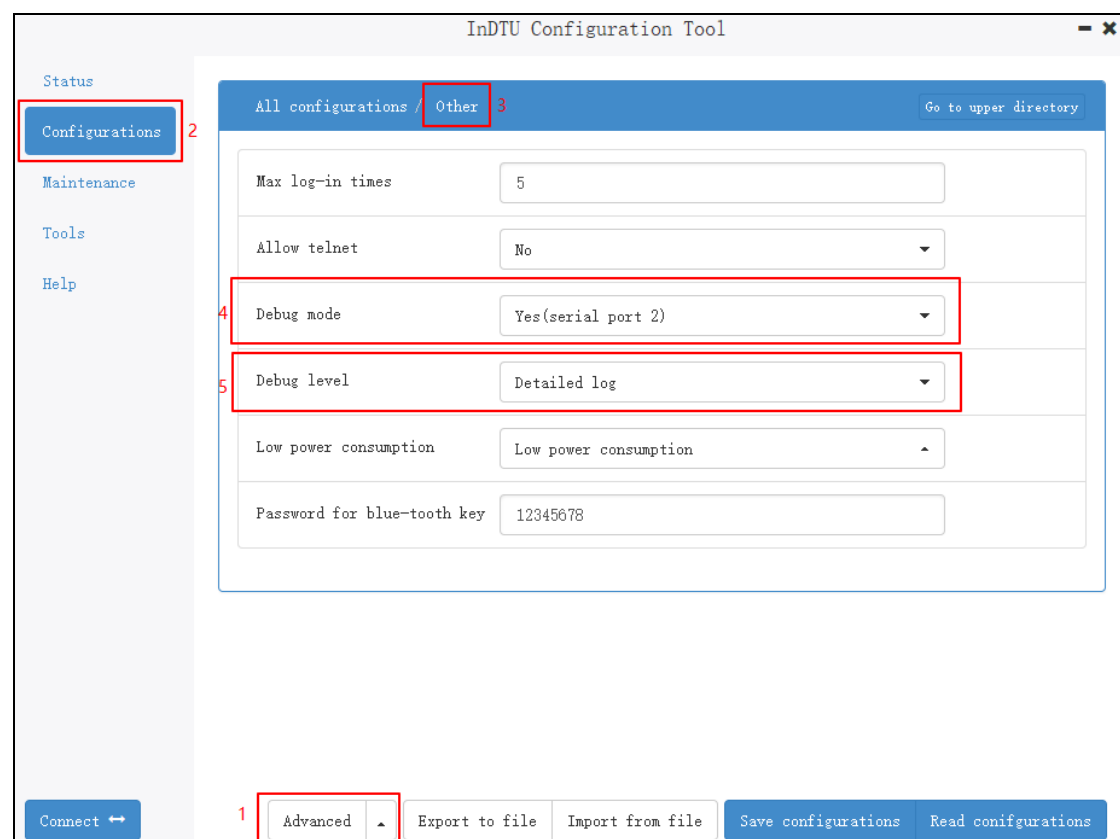

Figure 6-1
Step 1: Enable the DTU debugging mode, as shown in Figure 6-1.